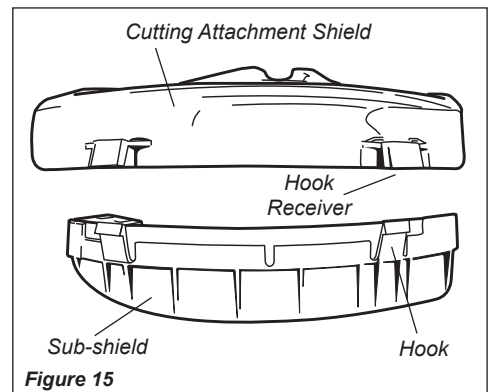

Figure 15
1. Attach the shield extension to the cutting attachment shield. See Figure 15.